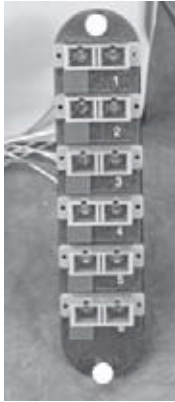

Figure 12
10.1 LANscape® connector panels (Figure 12) are sold separately, typically with connector adapters installed.